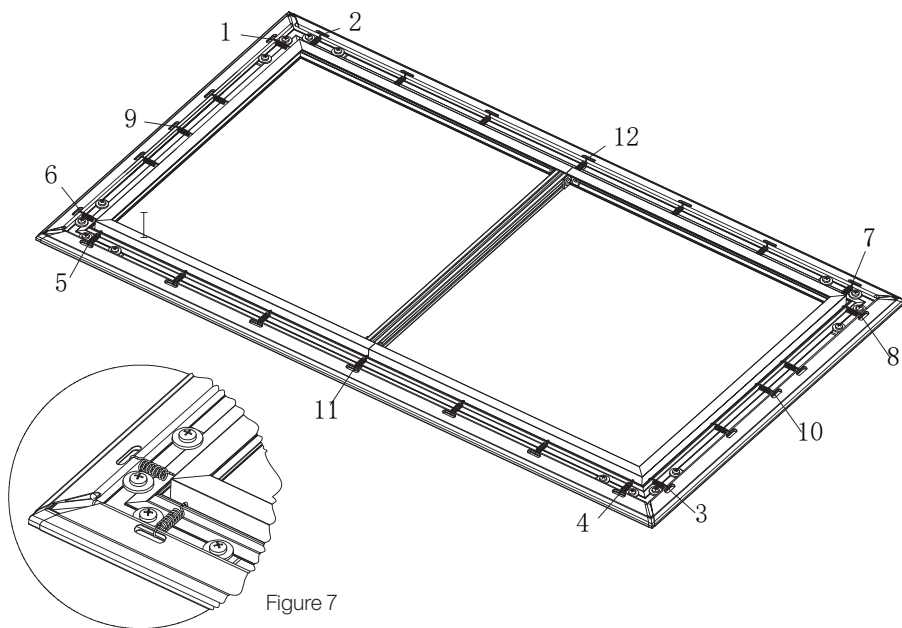

Figure 7
4.3 Hang the screen on the frame with the tension spring. Please follow the following sequence for hooking tension springs, Firstly install the four corner springs in the order of 1~8; then hang the middle springs 9~12, and finally spring from the middle, and install the other springs symmetrically in turn (Figure 7)